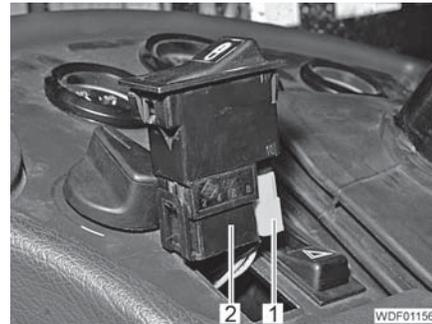

Fig. 441 Electrical connections
- Unplug the connector of (Fig. 441,1) the switch illumination (if it exists).
- Remove the plug (Fig. 441,2).
- Attach the connector of (Fig. 441,1) the switch illumination (if it exists) onto the switch.